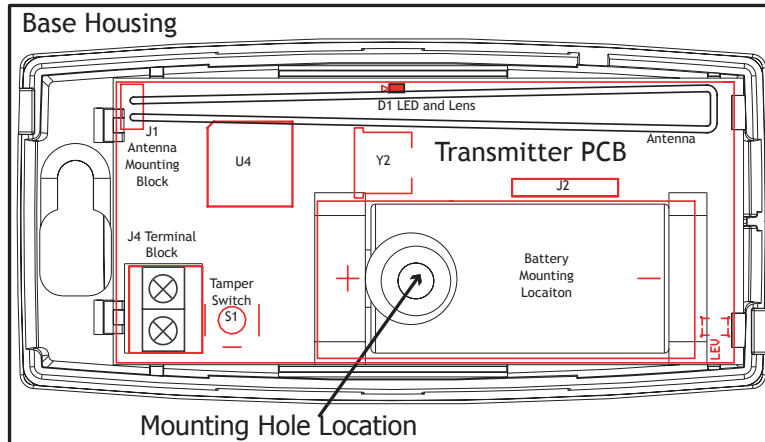

Figure 2: Base Housing Mounting
2. Place one supplied screw into the mounting hole location as shown in Figure 2 or use double-sided tape and secure the housing to the surface.